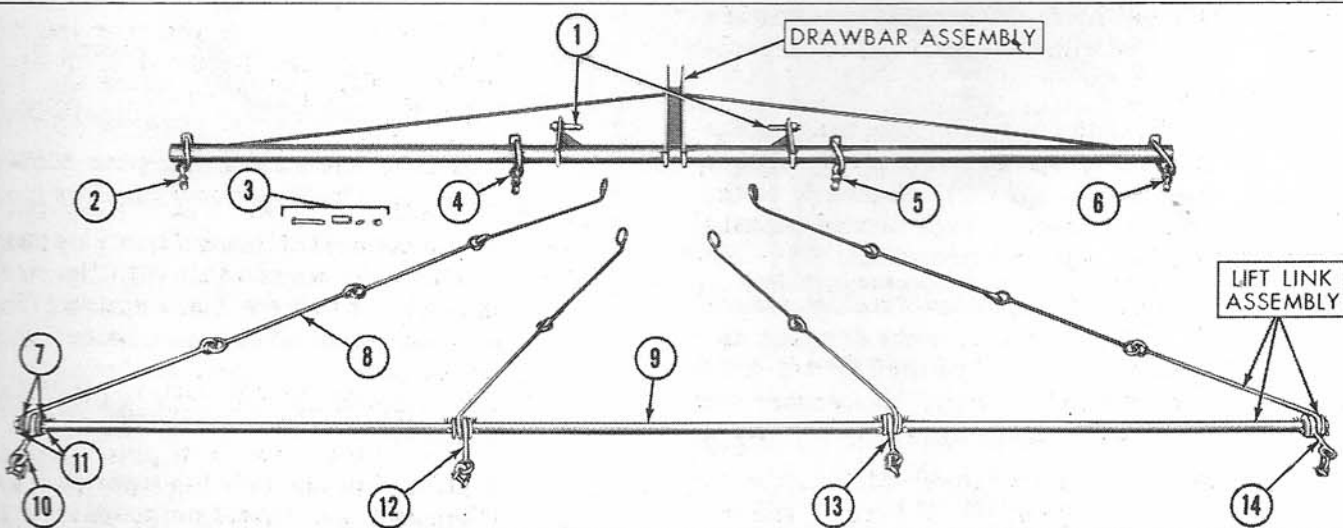
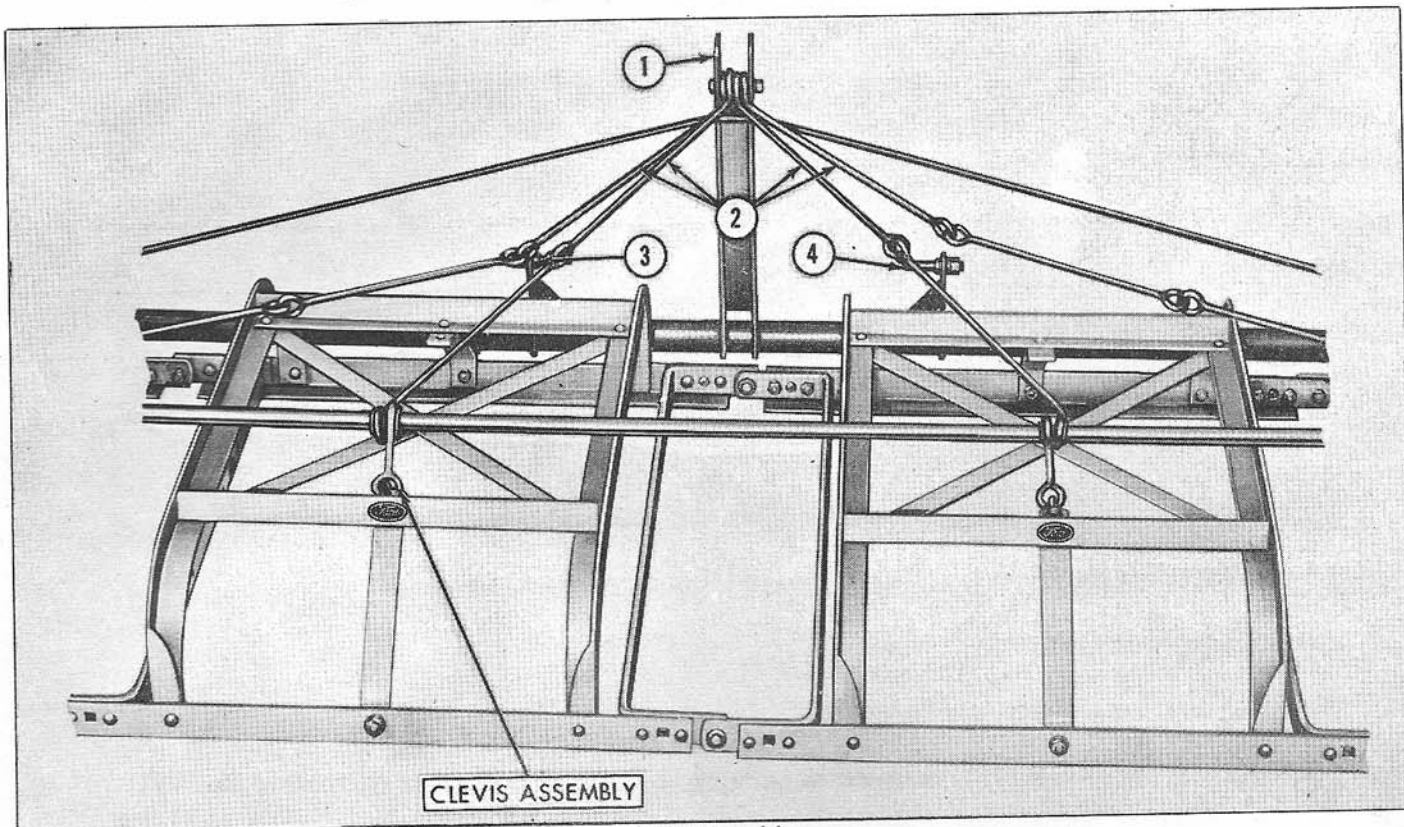

Figure 10
Figure 11
3. Install the link pins (1), Figure 10, in the drawbar assembly using the two 7/8" lockwashers and hex nuts provided.
4. Assemble the lift link assembly by positioning the link assembly (8), Figure 10, the link (10) and the flat washers (7) on the rod (9) as shown and secure with cotter pins (11). Install the remaining link assemblies and links in the same manner.
5. Position the drawbar assembly in front of the sections as shown in Figure 11.
6. Attach the eye bolts (4) and (5), Figure 10, to the front of the center sections with the 5/8" washer and nut provided as shown in Figure 11. Note that the eye bolts also secure the front end brace to the frame in each section. Attach
the eye bolts (2) and (6), Figure 10, to the two end sections in the same manner.
7. Position the lift link assembly on the sections and attach the links (12) and (13), Figure 10, to the rear end brace of each section with the shackle assembly as shown in Figure 11. Attach the links (10) and (14), Figure 10, to the two end sections in the same manner.
8. Attach the forward end of the link assemblies (2), Figure 11, to the drawbar assembly as shown, with the 5/8" x 3-1/2" hex head bolt, spacer, lockwasher and nut (see 3, Figure 10).
9. Attach the tractor lower lift links to the link pins (3) and (4), Figure 11, and secure with the linch pins provided. Attach the tractor upper link to the drawbar assembly at (1) with the pin and linch pin provided.